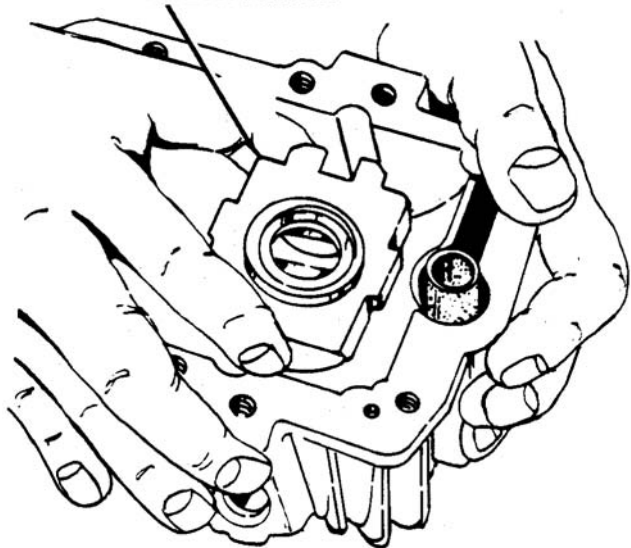

Figure 6-20. Swashplate Assembly
- b. Remove the swashplate from the housing. See Figure 6-20.